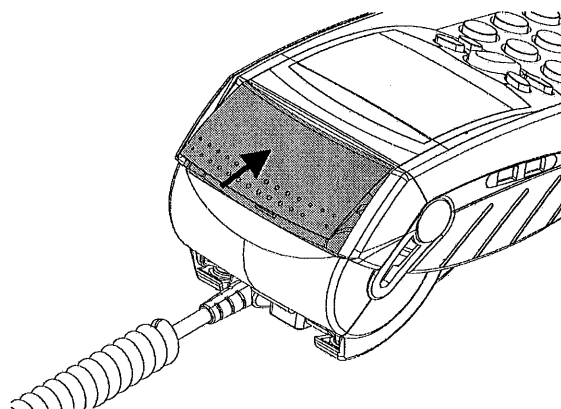

fig.1a
- 2- Open the paper holder cover (figure 1a) as follows: